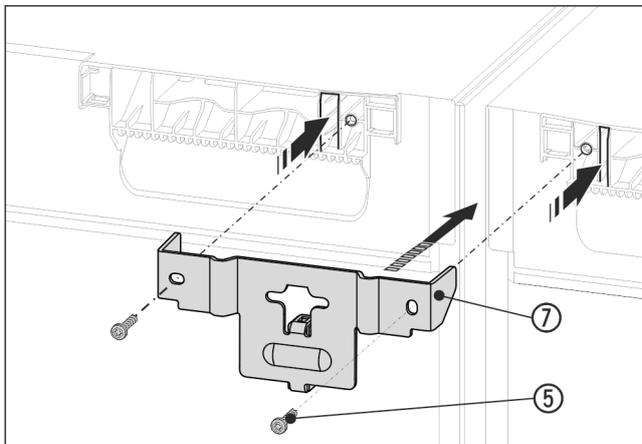

Fig. 16 Example illustration
- ▶ Slide the bracket Fig. 16 (7) onto the appliance ceiling with the lugs and with the spacer between the appliances. Screw in firmly with 2 screws Fig. 16 (5).